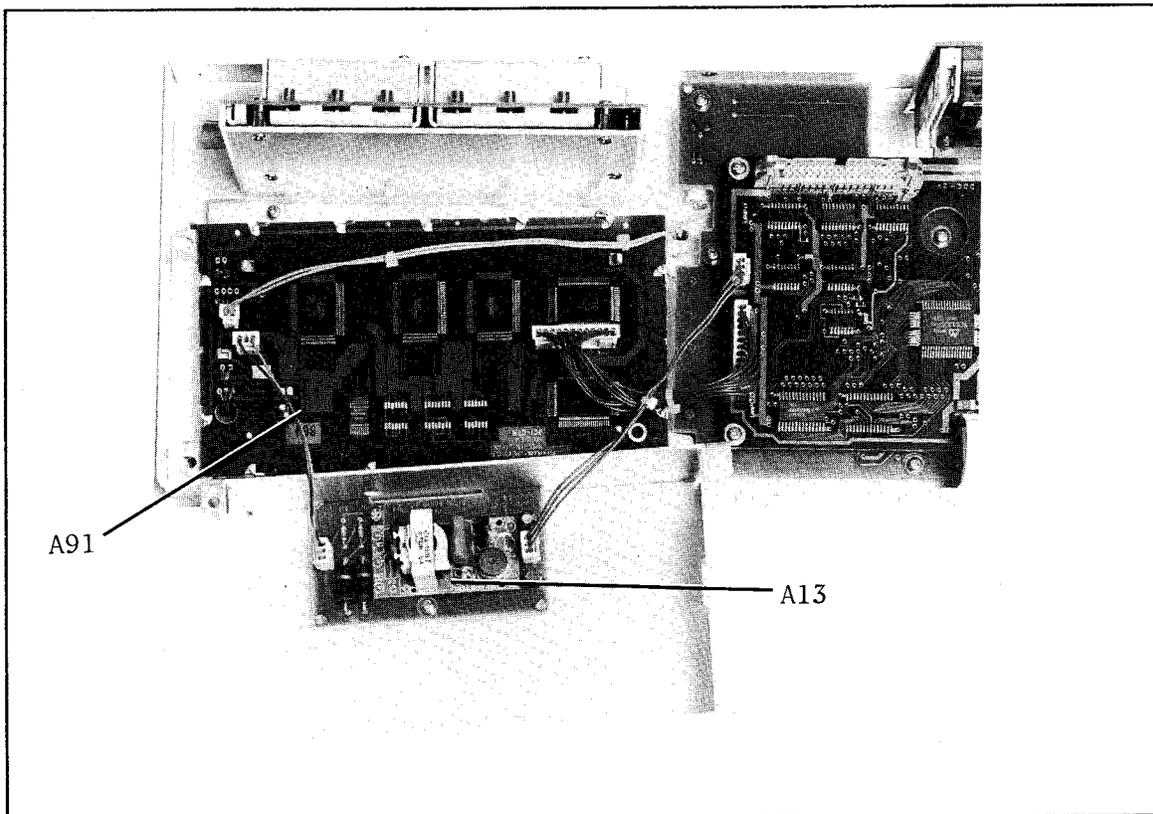

Figure 4-5. A13 and A91 Assembly Removal
1. Remove four screws that secure the shield case on which the **WARNING** is printed as shown in Figure 4-5.
1. Remove the four screws that secure the shield case on which the **WARNING** is printed as shown in Figure 4-5.